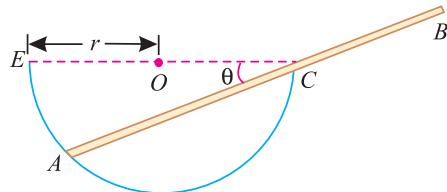

Fig. 5.21.
**Example 5.9.** A uniform rod AB of length  $3r$  remains in equilibrium on a hemispherical bowl of radius  $r$  as shown in Fig. 5.21.